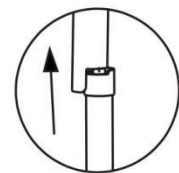
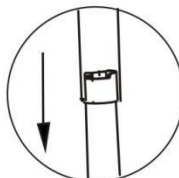

Figure A-1
Figure A-2
1.Folding: The treadmill is foldaway. Lift the end of the main frame and upwards to the folding position of cylinder, the link position should be buckled into the bayonet when folding (As Figure A-1).
3.Unfolding: Lift then end the the main frame to make the upper pole of cylinder higher than the bayonet surface; (As Figure A-1 shown), then put your toes to push the pole lightly, and pull down the frame to make the pole go over the bayonet position at the same time; (As Figure A-2 shown) Free your foot from the pole, but continue to press the frame slowly, then free your hand when the frame move down for a while, the cylinder contracts slowly under the action of gravity of the treadmill itself, and finally the frame goes to be flat. (As Figure B shown).